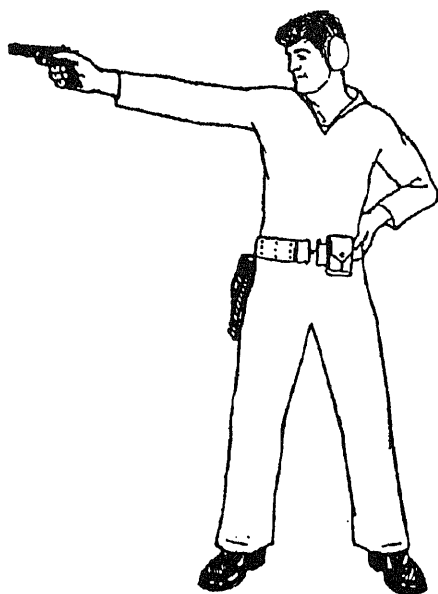

Figure 18-21.—Correct stance when firing the pistol.
natural to you—on your hip, in your pocket, or hanging at your side (fig. 18-21).
**Sight Alignment.**—One of the most essential pointers in shooting is sight alignment; that is, getting and keeping front and rear sights on the line of sight. If you stand as shown in figure 18-21 and line up the target, front and rear sights, wrist, elbow, shoulder, and eye, you should have little trouble with horizontal alignment. Make certain you do not bend your wrist to either side; to do so will throw the pistol across the line of sight, and your shot will be incorrect. If the distance to the target is great enough, a small error here might cause you to miss the target completely. The vertical alignment